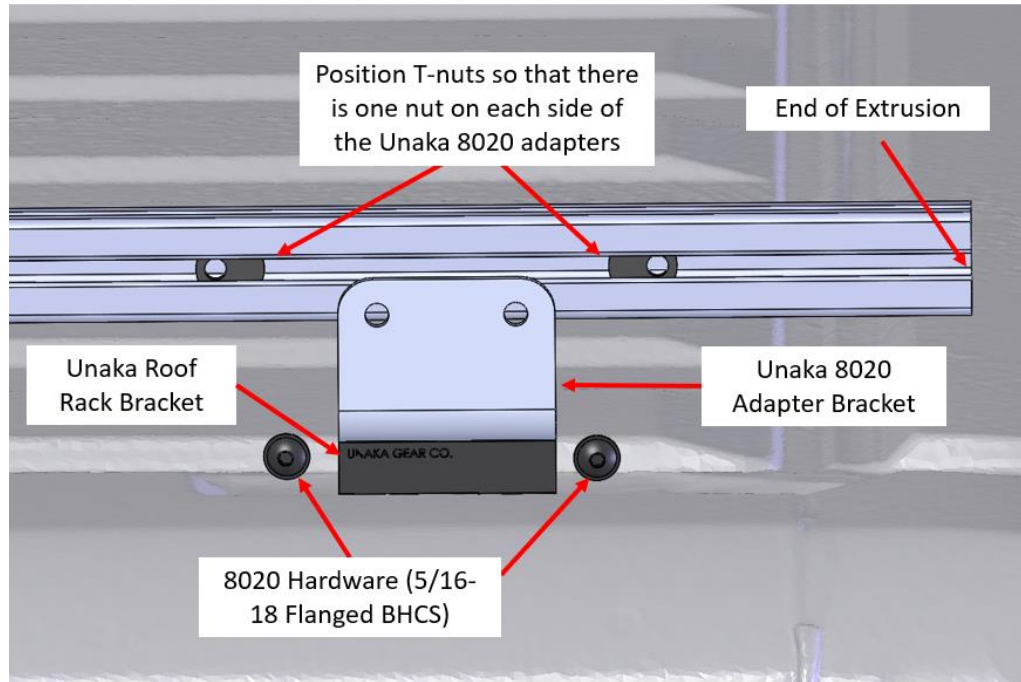
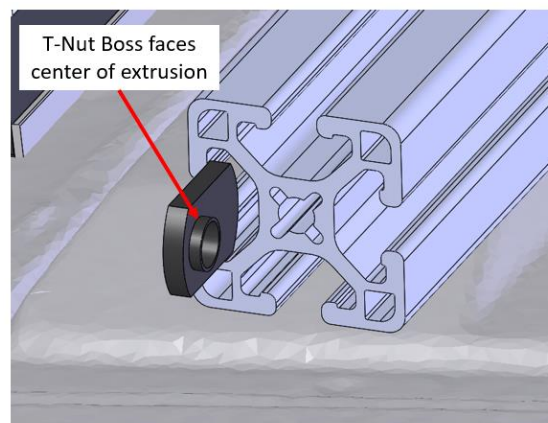

Figure 5: Unaka 8020 adapter hardware installation
Figure 6: 8020 T-Nut Installation
3. Pick a t-slot in the extrusion (typically the top or the side closest to the adapters. Slide 2 x T-nuts into the extrusion for each 8020 adapter you will be bolting to. Space the T-nuts so they are 2" to 3" outside of the 8020 adapter profile on each side, Figure 5. This will allow you to slide them into place when you are ready to insert the hardware. We typically place the long end of the t-nut towards the center of the bracket. Note 8020 specifies the boss on the t-nut should be facing the middle of the extrusion as shown in Figure 6.